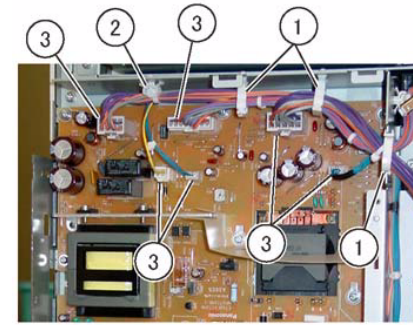

Figure 2 Main LVPS
4. Disconnect the connectors (x6) of the Main LVPS. (Figure 2)